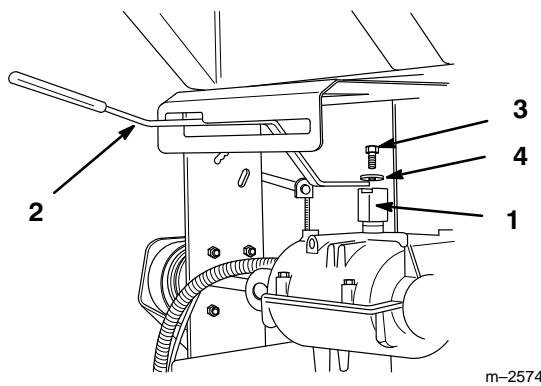

Figure 1
- Align mounting block with flats of shaft on top of transmission and slide onto shaft (Fig. 1).